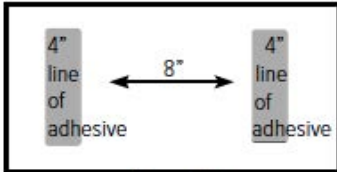

Figure 2.4.2
2.4.2 Apply adhesive on vertical flat reveal as shown in Figure 2.4.2.